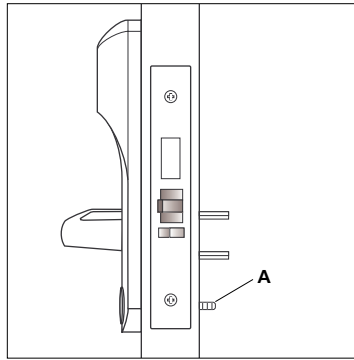

Figure 7
- 2) The override cylinder connecting bar (A) should extend 1/8" (3mm) from the inside surface of the door (see Figure 7). If necessary, measure and mark the connecting bar accordingly.